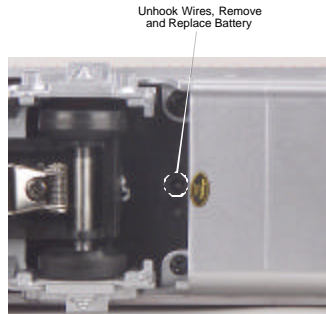
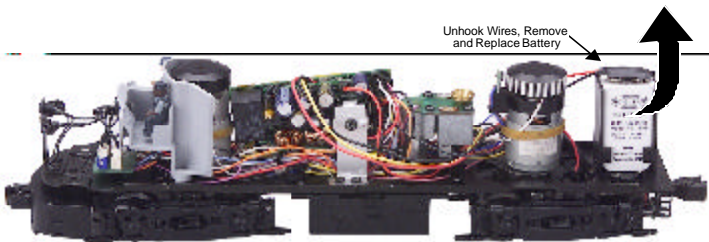

Figure 10
Figure 11. Replacing the Battery
- If the garbled or distorted sounds are reduced, the battery charge has run down and can be recharged. Do this by leaving the engine in neutral with track voltage at 12 volts for 6-7 hours so the battery can fully recharge (if your engine has a smoke unit, be sure it is turned off). Or use M.T.H.'s battery recharger that plugs into a wall outlet and a special port under the engine (see Fig. 10) to recharge the battery overnight without leaving it on the track. You can remove the battery (see Fig. 11) and charge it in any standard slow charge battery recharger, following the recharger's directions.